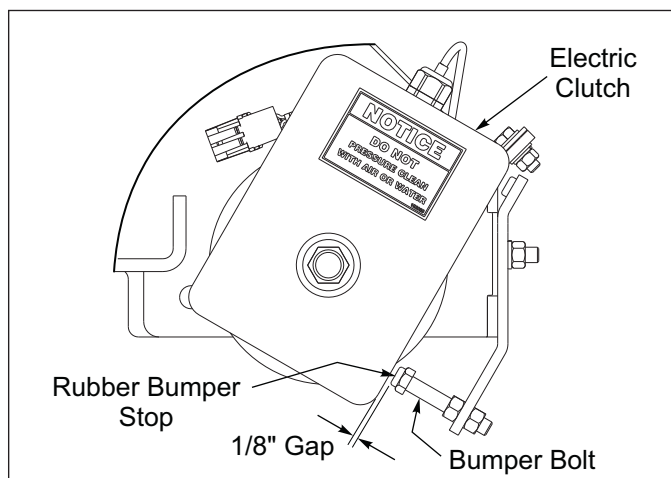

Figure 2-21: Clutch Detail
1. Verify that the Electric Clutch has 1/8" clearance between the Clutch Housing and Rubber Bumper Stop. Improper clearance may prevent the Clutch from engaging or disengaging. **See Figure 2-21.**